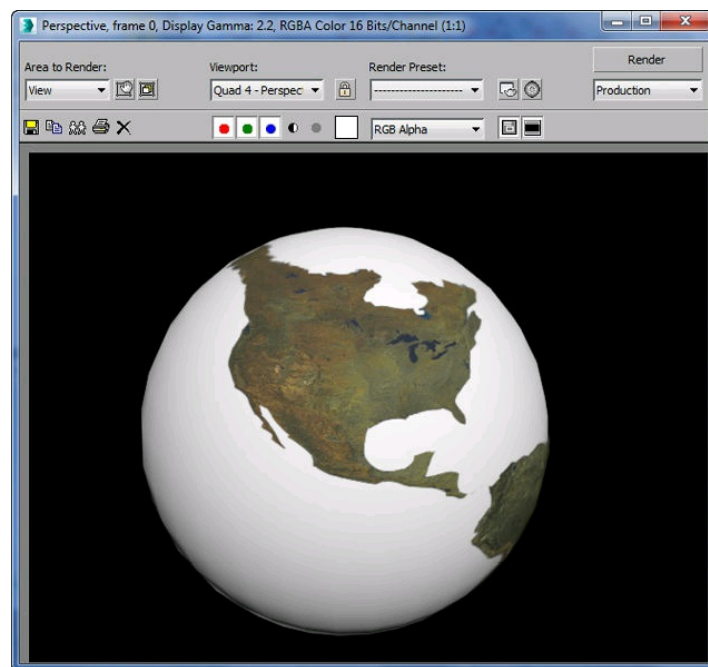

Figure 14-42 The earth map applied to the earth sphere after rendering
12. Render the Perspective viewport to view the map applied using the **Render Production** tool, as shown in Figure 14-42.